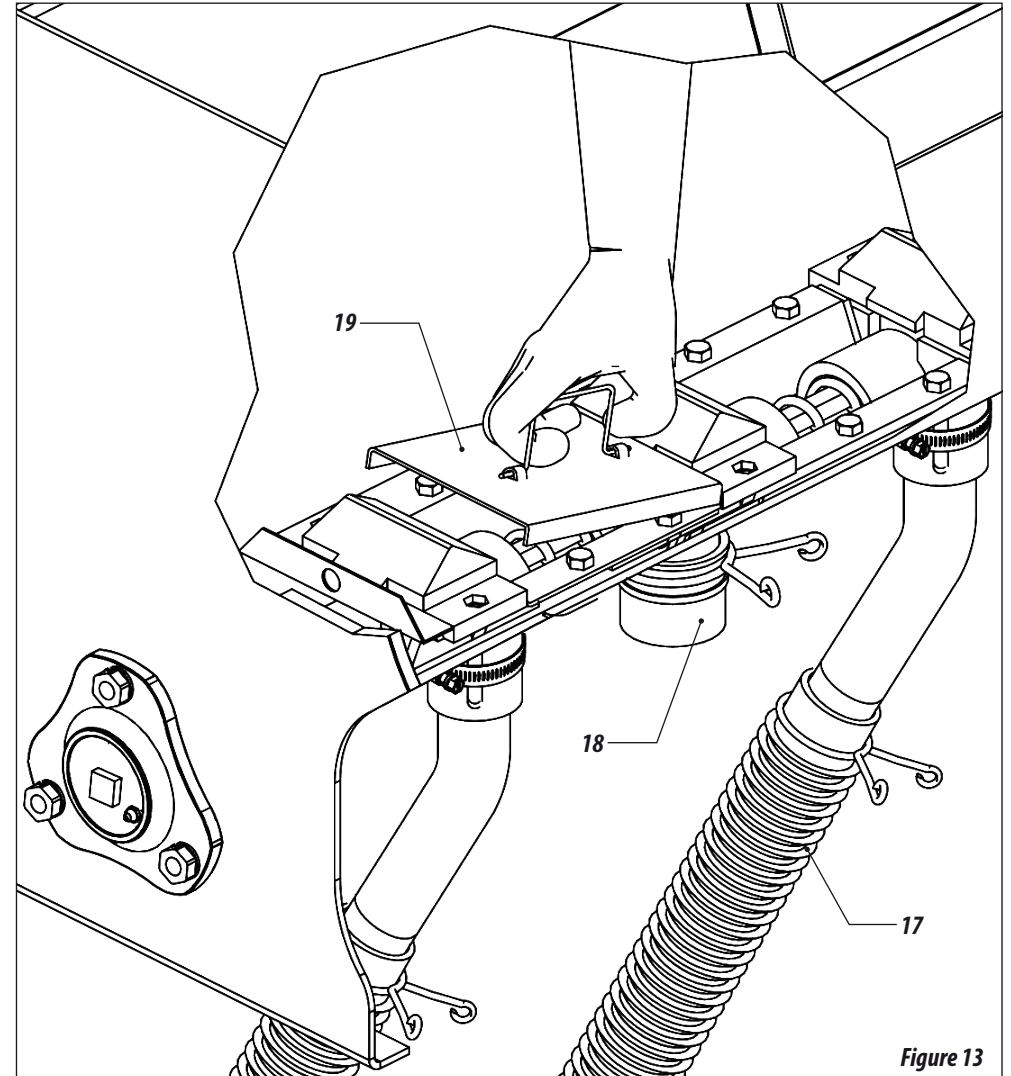

Figure 13
- 11- Remove the fertilizer lead hose (17) from the rows that has been removed, close the exit from the fertilizer tank with the plug (18).
- 12- Close the entrance of fertilizer into the tank placing the lid (19). **Figure 13.**